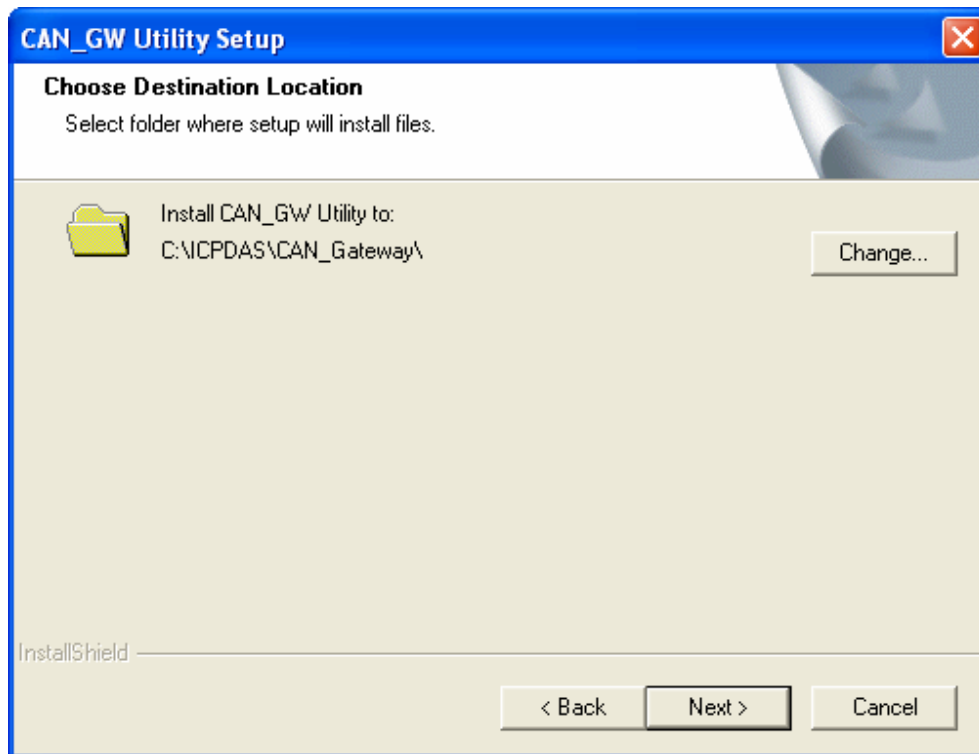

Fig 5-3. “Choose Destination Location” dialog
Step 4: Click “Next” button and A “Choose Destination Location” window pops up to prompt user as Fig 5-3 shown.